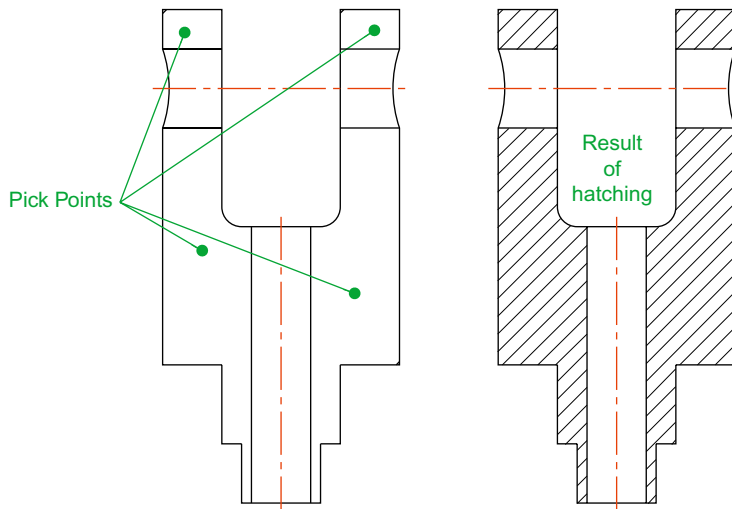

Fig. 7.16 The result of hatching
5. *Pick* the points in the front view (left-hand drawing of Fig. 7.16) and the *picked* points hatch. If satisfied the hatching is correct *right-click* (right-hand drawing of Fig. 7.16).